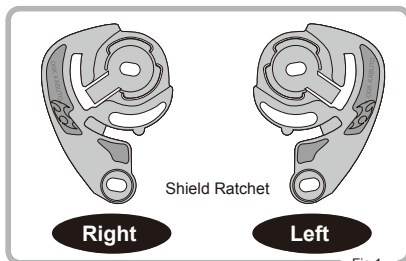

Fig.1
- ① First, check the side of the Shield Ratchet as shown in Fig.1.